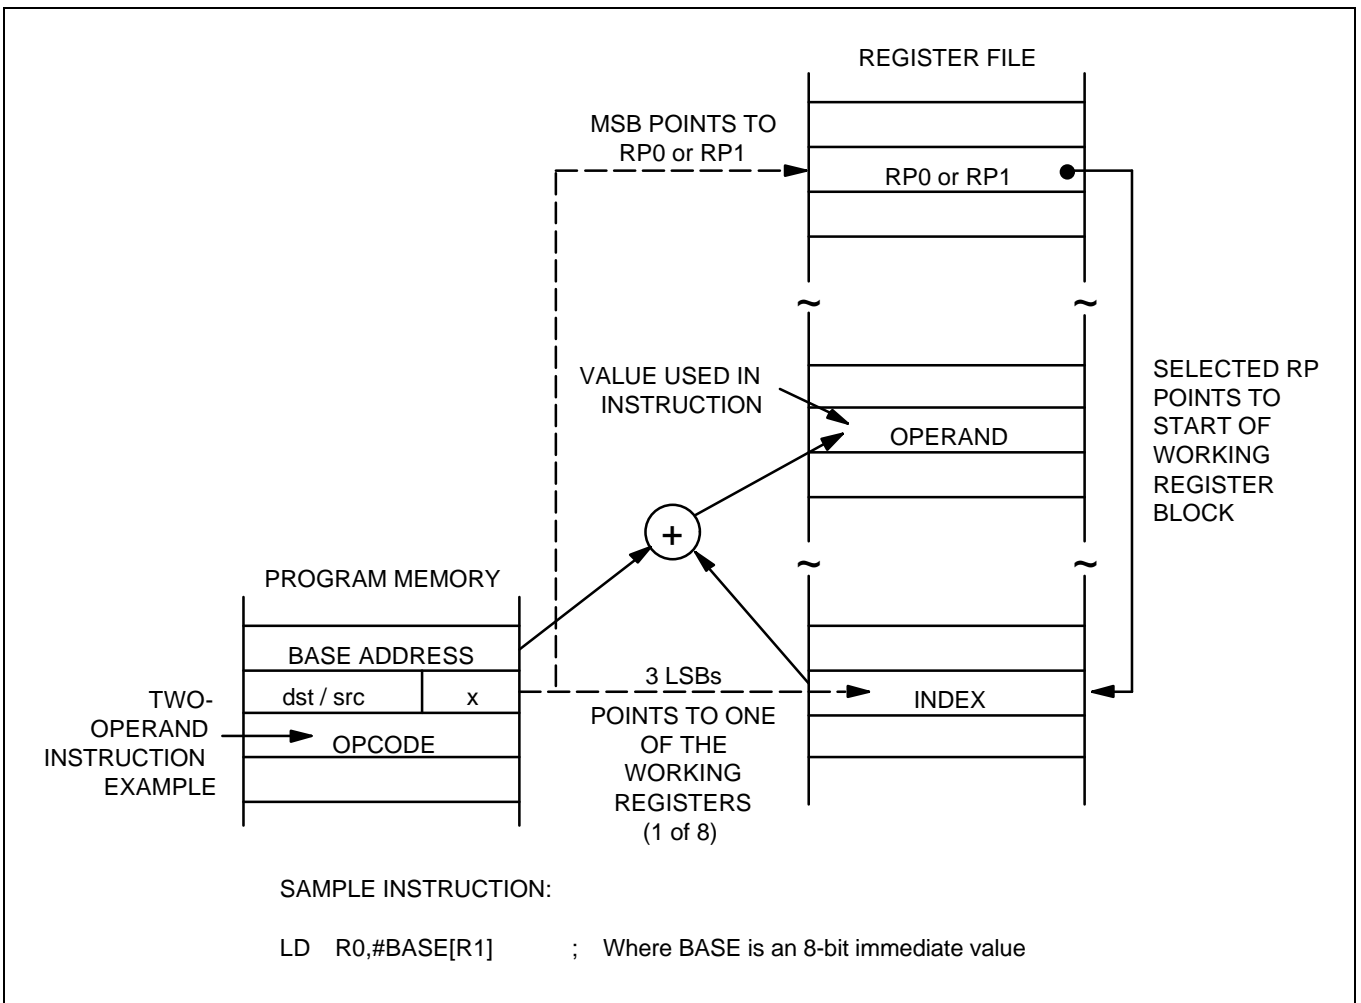

Figure 3-7. Indexed Addressing to Register File
Indexed (X) addressing mode adds an offset value to a base address during instruction execution in order to calculate the effective operand address (see Figure 3-7). You can use Indexed addressing mode to access locations in the internal register file or in external memory (if implemented). You cannot, however, access locations C0H-FFH in set 1 using Indexed addressing.